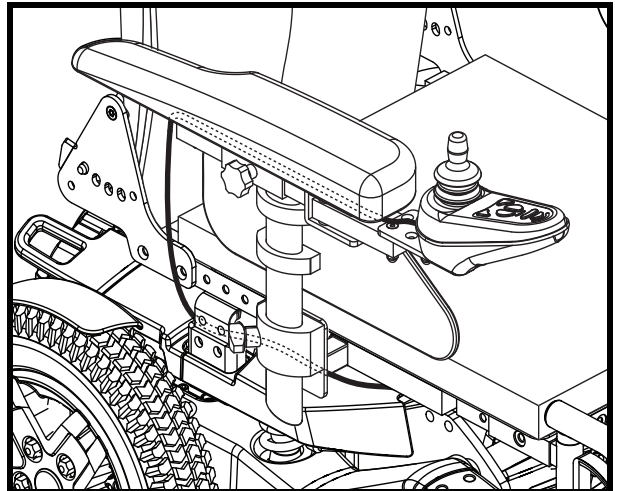

Figure 20. Cable Routing
7. Route the controller harness to the front of the power base and reconnect the controller. See figure 20.